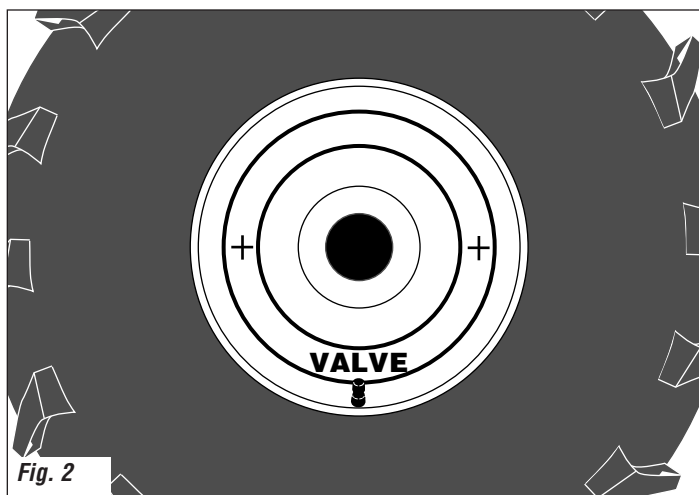

Fig. 2
2. Place the template in the center of the wheel well, making sure that the arrow on the template is aligned with the air valve stem, as shown in Figure 2. Secure the template to the wheel with several strips of masking tape.